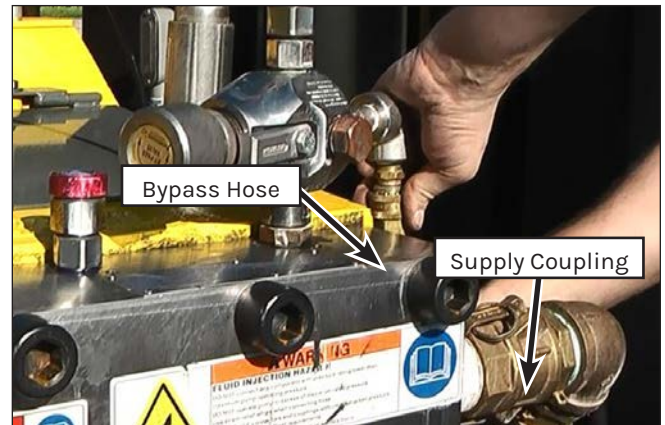

Figure 59: Line Removal.
4. Disconnect the bypass drain hose and the supply coupling from the manifold (Figure 59).